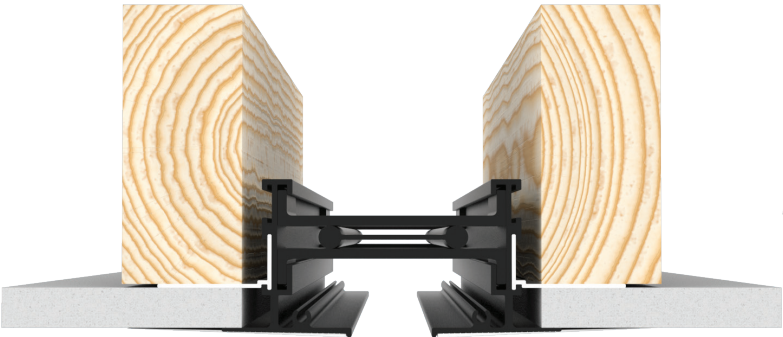
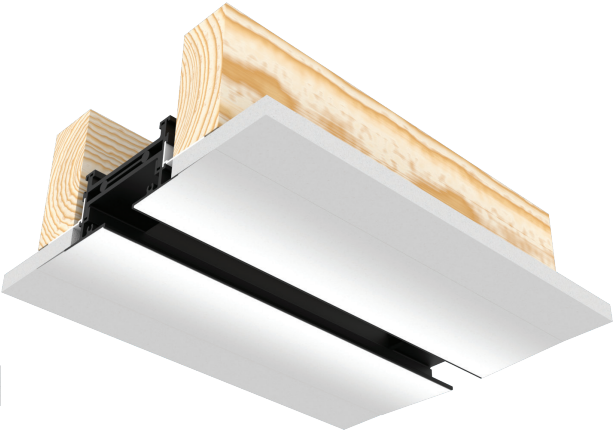

Figure 8 (Step 5A): Install Drywall – Exposed Face/Flange Border (A)
Figure 9 (Step 5A): Install Drywall – Tape and Spackle Border (C)
A. Lastly, install sheetrock into the slot created by the F Clip and the border of the LAD diffuser (see Figure 8). If one or both borders have a tape and spackle border (“C”), see Figure 9.